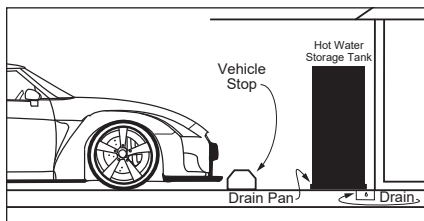

Figure 8 - In a garage, install a vehicle stop to avoid damage to the hot water storage tank.
**▲ WARNING! Even though the hot water storage tank is provided with a thermostatic mixing valve to be installed at the tank, hot water can scald. Install Thermostatic Mixing Valves at each point-of-use to reduce the risk of scalding (see page 4 and Figure 8).**
- The location is not prone to physical damage by vehicles, flooding, or other risks (Figure 8).